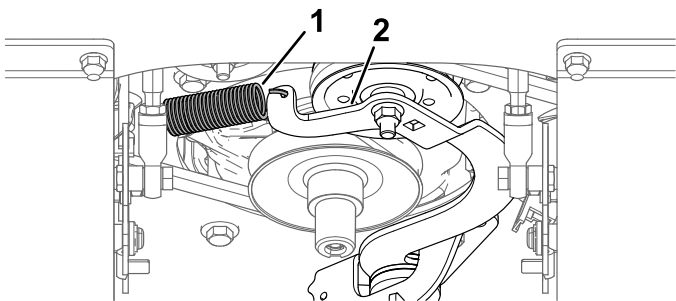

Figure 57
5. Insert a drive ratchet in the square hole of the idler arm to release the belt tension (Figure 57).
9. Install the spring to the spring anchor. Use the drive ratchet to apply tension to the spring to allow the belt to pass over the lip of the idler pulley (Figure 57).